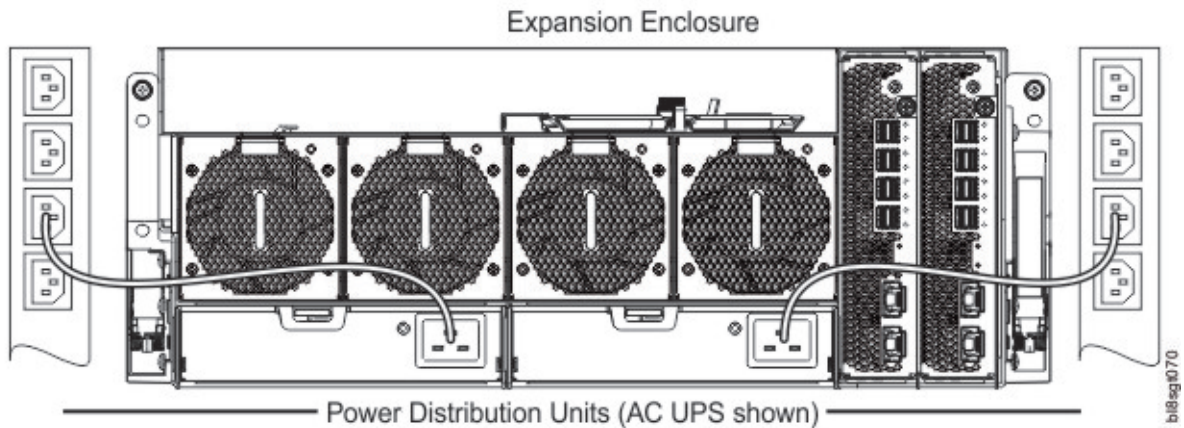

Figure 60. Typical AC power cord connection from PDU to PSU
- Figure 60 on page 53 shows power connection from a single-core PSU to a PDU using C19 connectors.
1. Power on the system by connecting the power cables from the PSU to the PDU. See Figure 60 on page 53.